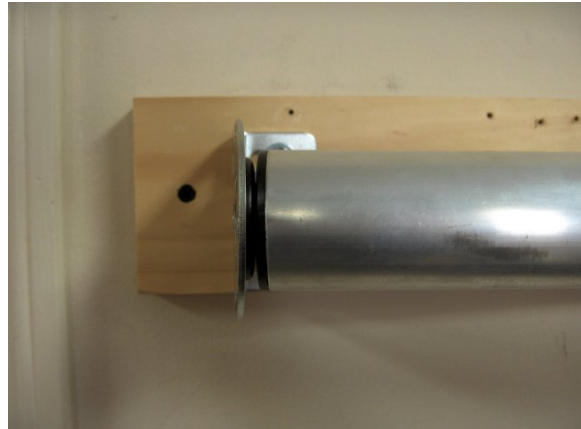

Figure 18 Motor Idler Collapsed in Bracket
- Gently push the tube assembly toward the idler bracket until the idler pin collapses. See Figure 18.